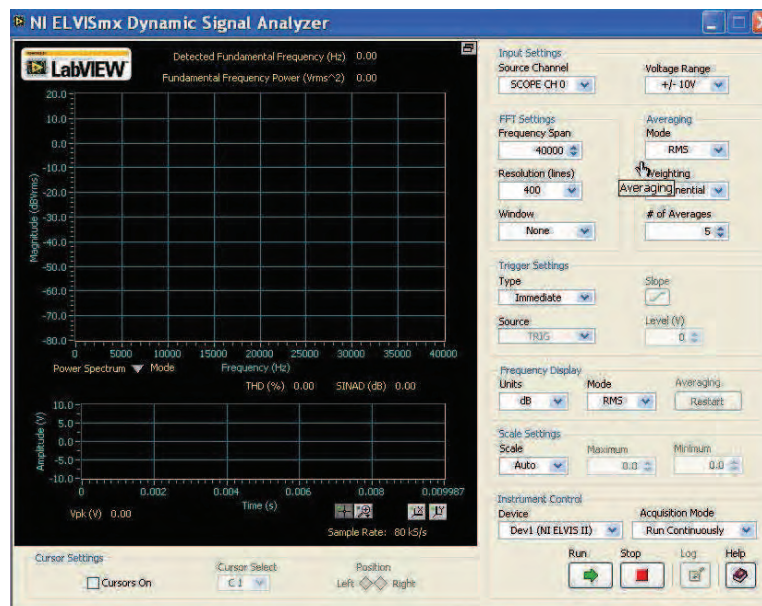

Figure 5
**Note:** If the Dynamic Signal Analyzer VI has launched successfully, the instrument's window will be visible (see Figure 5).